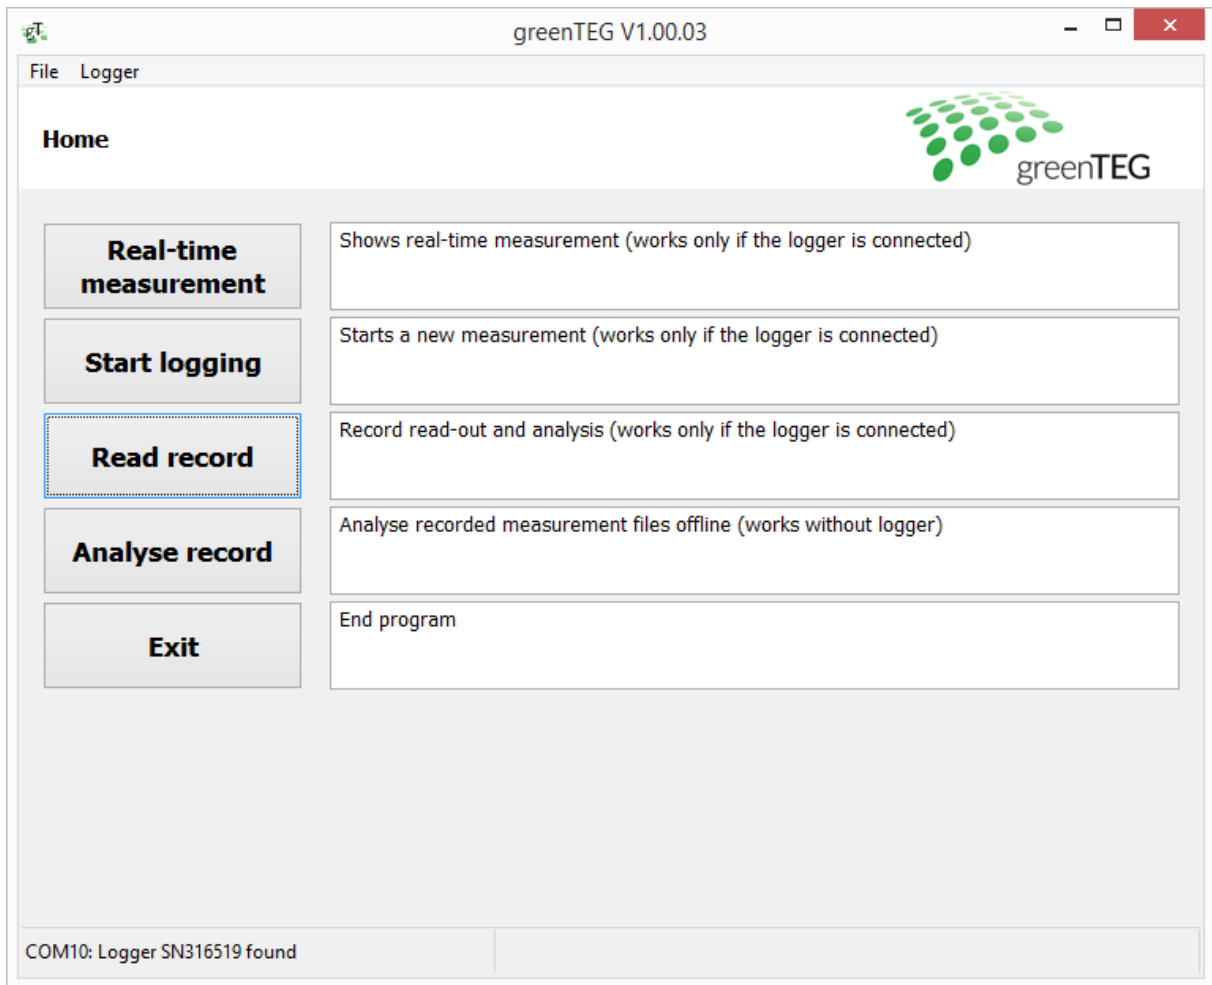

Figure 2: Home screen view with data logger connected to your laptop
The gSKIN® Heat Flux software is built upon a home screen with 7 functional buttons (see figure 2):
4. When you open the software the home screen will appear (see figure 2). Under "File" > "Language" you can change the language settings from English to German or vice versa
13. To review other data logger files stored on your laptop, you can select these files via your **home screen** by using the “Analyse record” button (see figure 2)